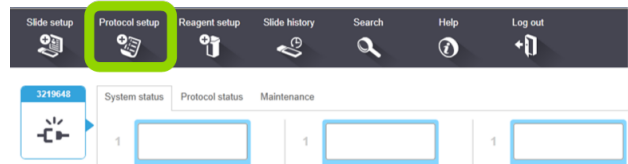

Figure 86: Protocol setup icon
- Click the **Protocol setup** icon (see Figure 86).